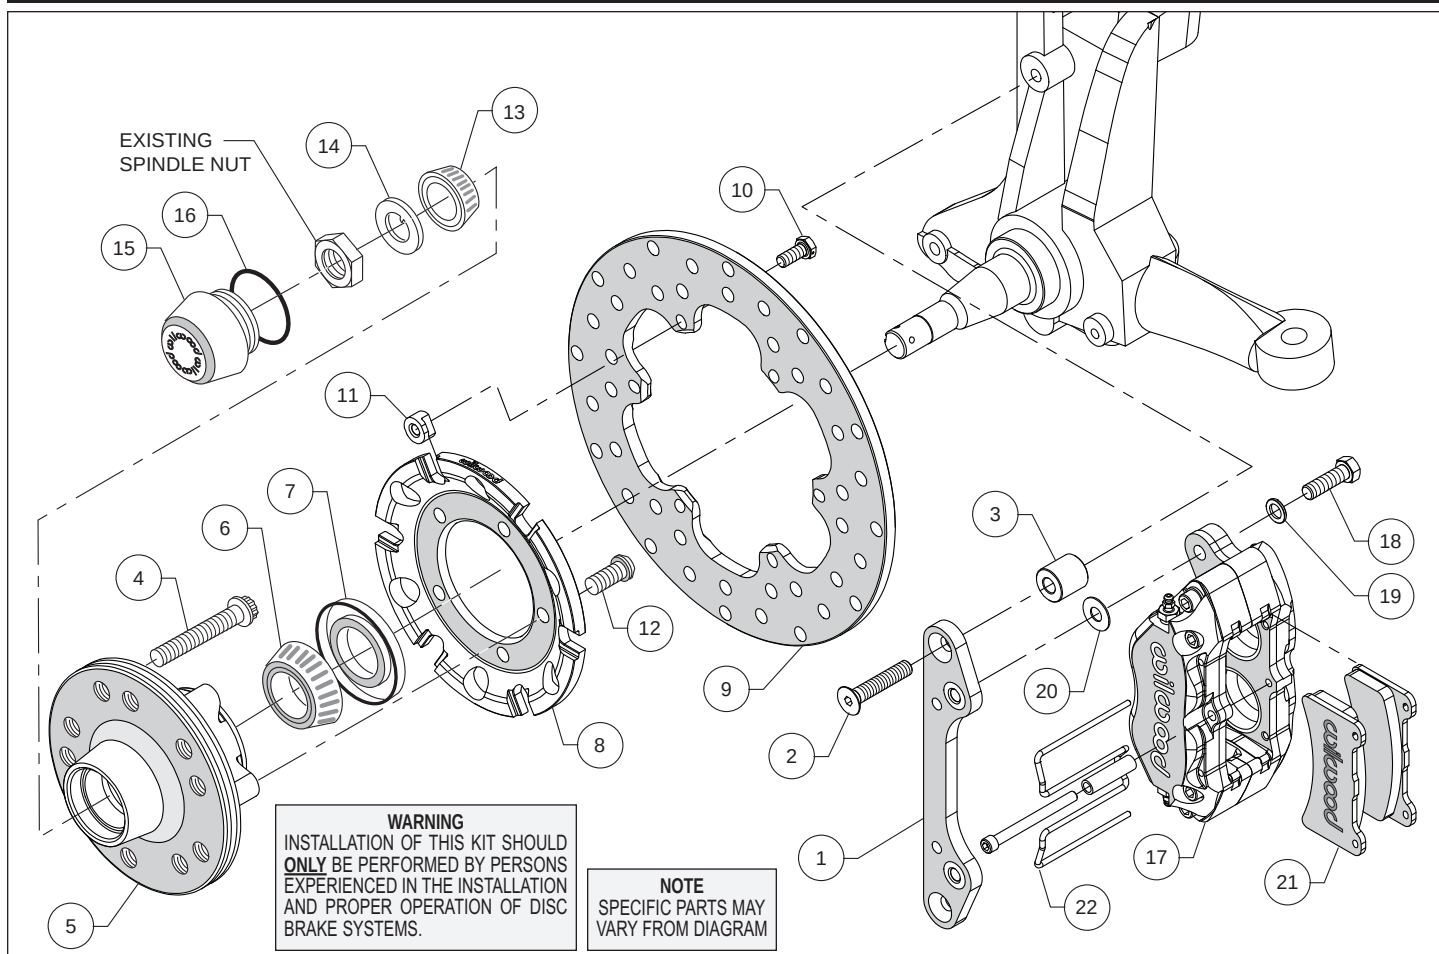
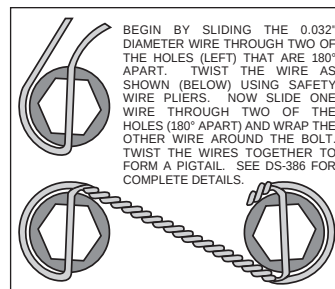
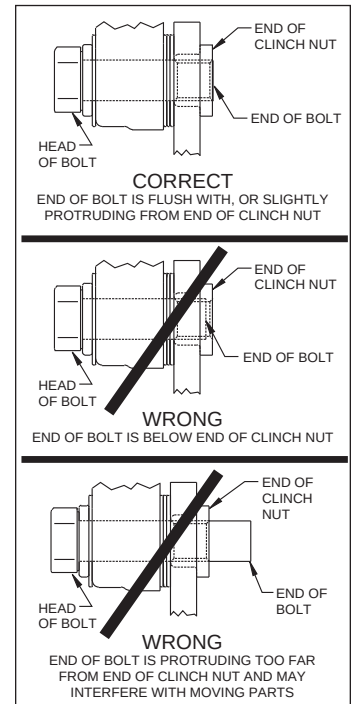

Figure 2. Typical Installation Configuration
Figure 4. Safety Wire Diagram
Figure 5. Clinch Nut Engagement Diagram
Assembly Instructions (numbers in parenthesis refer to the parts list, on the preceding page and Figure 2): **CAUTION:** All mounting bolts must fully engage clinch nuts. Be sure to check that all bolts are either flush or protruding through flanged side of clinch nut after shimming, Figure 5.
- Orient the caliper mounting bracket (1) as shown in Figure 2 and Photo 1. Attach using bolts (2) and spacers (3), Figure 2. Temporarily tighten the mounting bolts. Ensure that the flanged heads of the clinch nuts in the bracket are facing outboard, Photo 1. **NOTE:** The bracket must fit squarely against the mounting points on the spindle. Inspect for interference from casting irregularities, machining ridges, burrs, etc. Remove bolts one at a time, apply red *Loctite*® 271 to threads and torque to 30 ft-lbs.
- Install the grease seal (7) by pressing into the backside of the hub (5), flush with the end of the hub, Photo 3.
- Orient the rotor (9) and the rotor adapter (8) as shown in Figure 2 and Photo 4. Attach the rotor to the adapter using bolts (10) and T-nuts (11). Using an alternating sequence, apply red *Loctite*® 271 to the threads, and torque to 120 in-lb. Safety wire bolts using standard 0.032 inch diameter stainless steel safety wire as shown in Figure 4. Refer to Wilwood's data sheet DS-386 (available at www.wilwood.com/Pdf/DataSheets/ds386.pdf) for complete safety wire installation instructions.
- Mount the adapter/rotor assembly (8 and 9) to the hub (5) using bolts (12), as shown in Figure 2 and Photo 5. Using an alternating sequence, apply red *Loctite*® 271 to the threads, and torque to 45 ft-lb.
- Pack the small outer bearing cone (13) with high temperature disc brake bearing grease and install into hub (5). Slide the hub/rotor assembly onto the spindle. Secure using spindle washer (14) and OEM spindle nut, Photo 6. Adjust bearings per OEM specifications. Install saved OEM nut lock (if any) and a new cotter pin (not included).
as shown in Figure 2. Initially place one .035" thick shim (20) on each bolt between the caliper and the bracket, Photo 8. Temporarily tighten the mounting bolts and view the rotor (9) through the top opening of the caliper. The rotor should be centered in the caliper, Photo 9. If not, adjust by adding or subtracting shims (20) between the bracket and the caliper. Always use the same amount of shims on each of the two mounting bolts. **NOTE:** *The end of each bolt must be flush with or slightly protruding from the head of the clinch nut, as shown in Figure 5.* If necessary place spare shims (20) between washer (19) and caliper mounting ear to achieve the proper clinch nut engagement. Once the caliper alignment and clinch nut engagement are correct, remove the bolts one at a time, apply red *Loctite*® 271 to bolt threads, and torque to 40 ft-lb. For an added measure of security, the bolts may be safety wired using standard 0.032 inch diameter stainless steel safety wire as shown in Figure 4. Refer to Wilwood's data sheet DS-386 (available at www.wilwood.com/Pdf/DataSheets/ds386.pdf) for complete safety wire installation instructions.